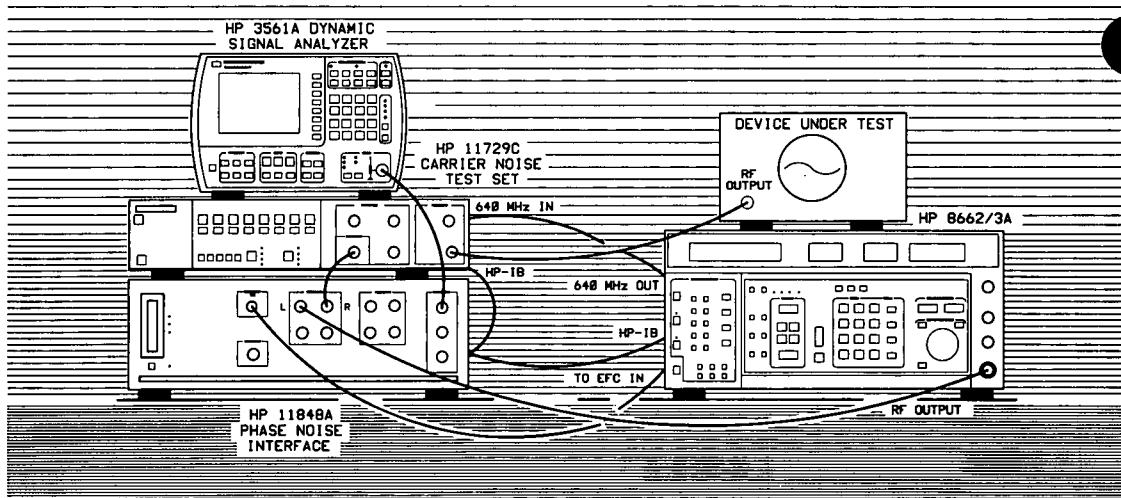

Figure 3-19. Setup Diagram for Microwave Source Measurement Example.
- 3. When the Connect Diagram appears on the HP 3048A's display, connect the signal paths as shown on the display.** (Figure 3-19 also shows the cable connections for this measurement.) Table 3-13 provides setup considerations that will help you ensure that your measurement results are valid.